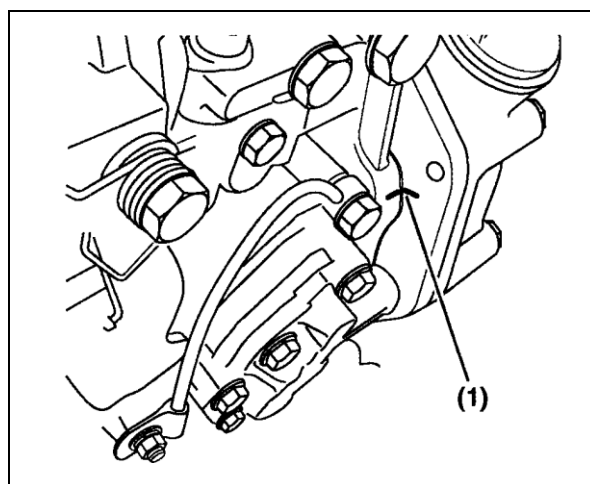

Figure 16
- Align the reference marks (Figure 16, (1)) previously made on both the fuel injection pump mounting flange and gear case or front plate.